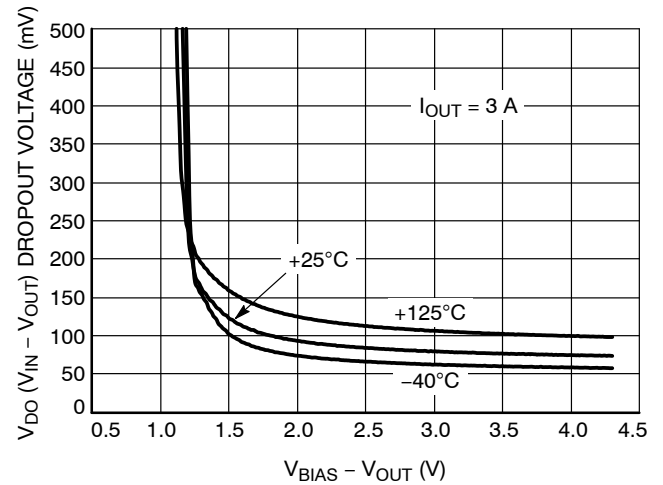

Figure 8. V_{IN} Dropout Voltage vs. $(V_{BIAS} - V_{OUT})$ and Temperature T_J
- 3.25 V is a test condition of this device and can be adjusted by referring to Figure 8.